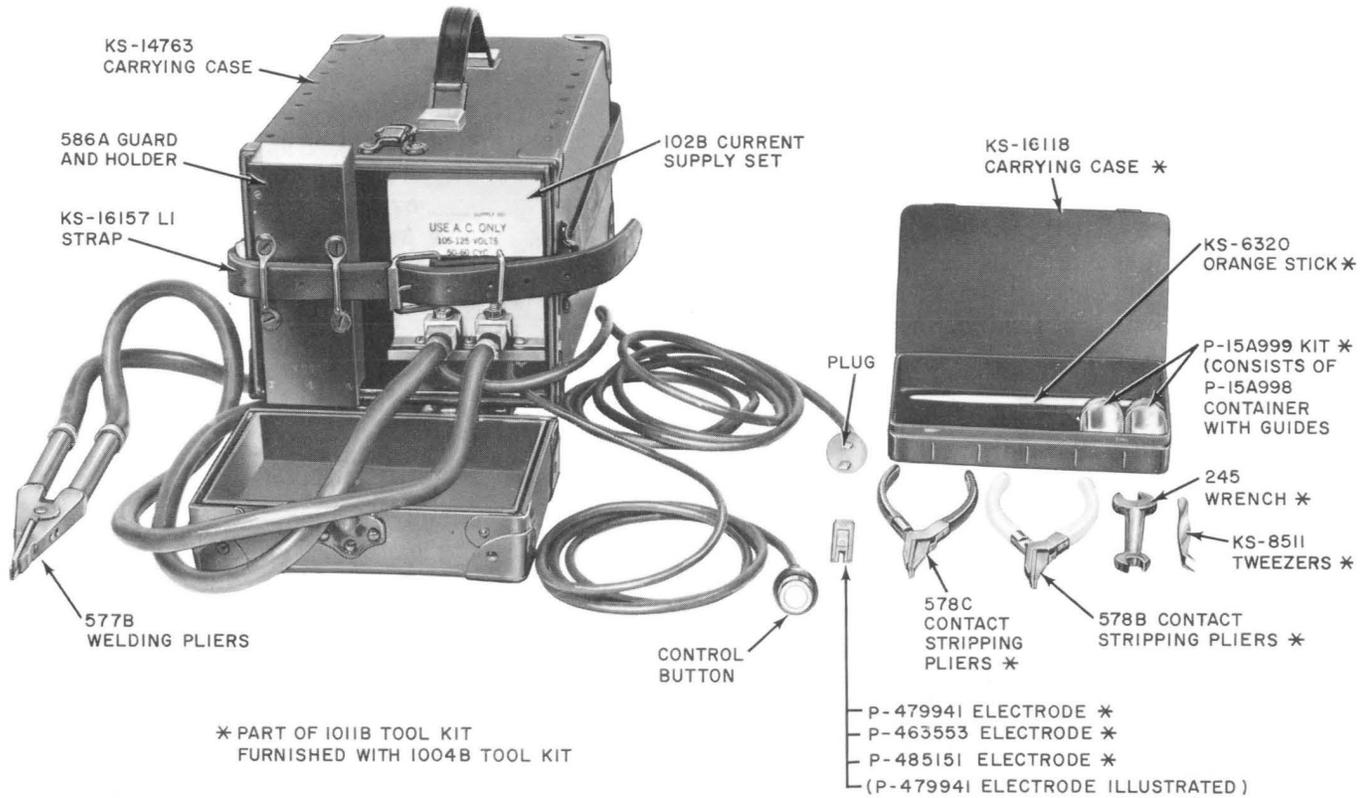

Fig. 1—1004B Tool Kit
2.01 The 1004A and 1004B tool kits each consist of a current-supply set, welding pliers, contact stripping pliers, and other equipment described in this section. In the 1004A tool kit, the leads of the 577A welding pliers are permanently connected to the terminals of the welding transformer in the 102A current-supply set. In the 1004B tool kit shown in Fig. 1, the welding transformer of the 102B current-supply set has gold-plated terminals to which are connected the gold-plated terminal lugs on the leads of the 577B welding pliers. This arrangement provides a reliable, low-resistance connection between the transformer and welding pliers and permits the use of different types of welding pliers having leads with gold-plated terminal lugs.